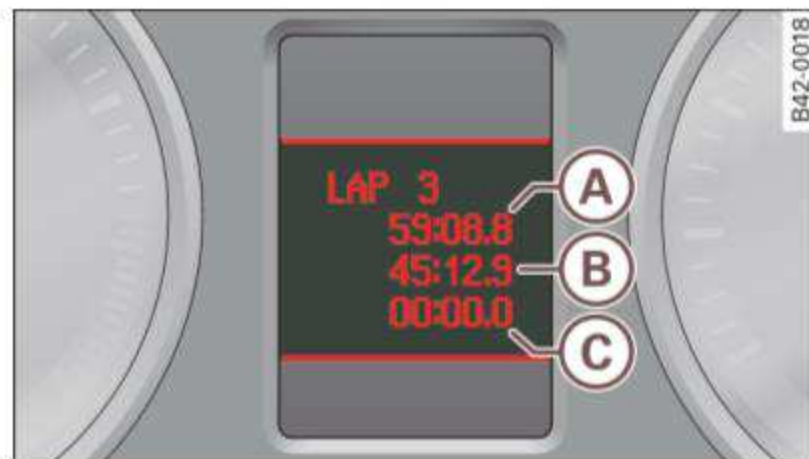

Fig. 21 Display: Lap 2 is saved
The current lap time is displayed in the bottom line of the display ③ ⇒ fig. 21.
After being saved, the last recorded lap time moves from the lower to the next higher line on the display ② ⇒ fig. 21. The lap time before the last one also moves up one line ①. The lowest line ③ identifies the newly started lap time. ■
- In addition to the total results ⇒ fig. 23, only the last two lap times ⇒ *page 31*, fig. 21 can be displayed in the lap timer.